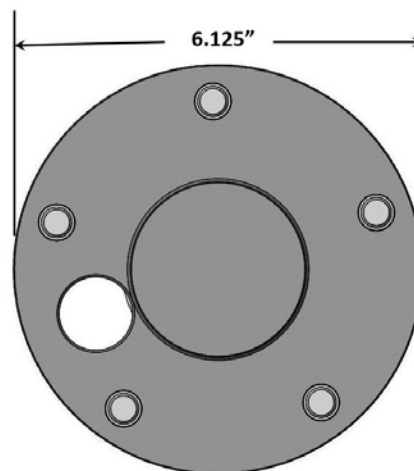

Figure 1 – Measuring the Axle Flange
5. The outer diameter of the axle flange can be no larger than 6.125" in outside diameter. This is critical for proper fitment of the rotor over the axle flange. For axle with a flange larger than 6.125", using a lathe, machine the outer flange down to no larger than 6.125". See Figure 1 below for measuring reference.